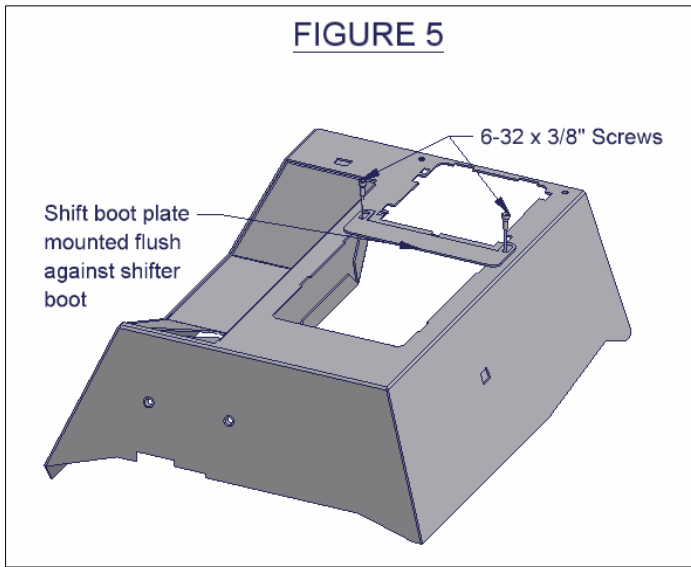

FIGURE 6
22. Attach the front console tray using (4) 6-32 x 5/8" screws (SEE FIGURE 6). Position the tray flush against the shift boot so it holds the shift boot tightly.